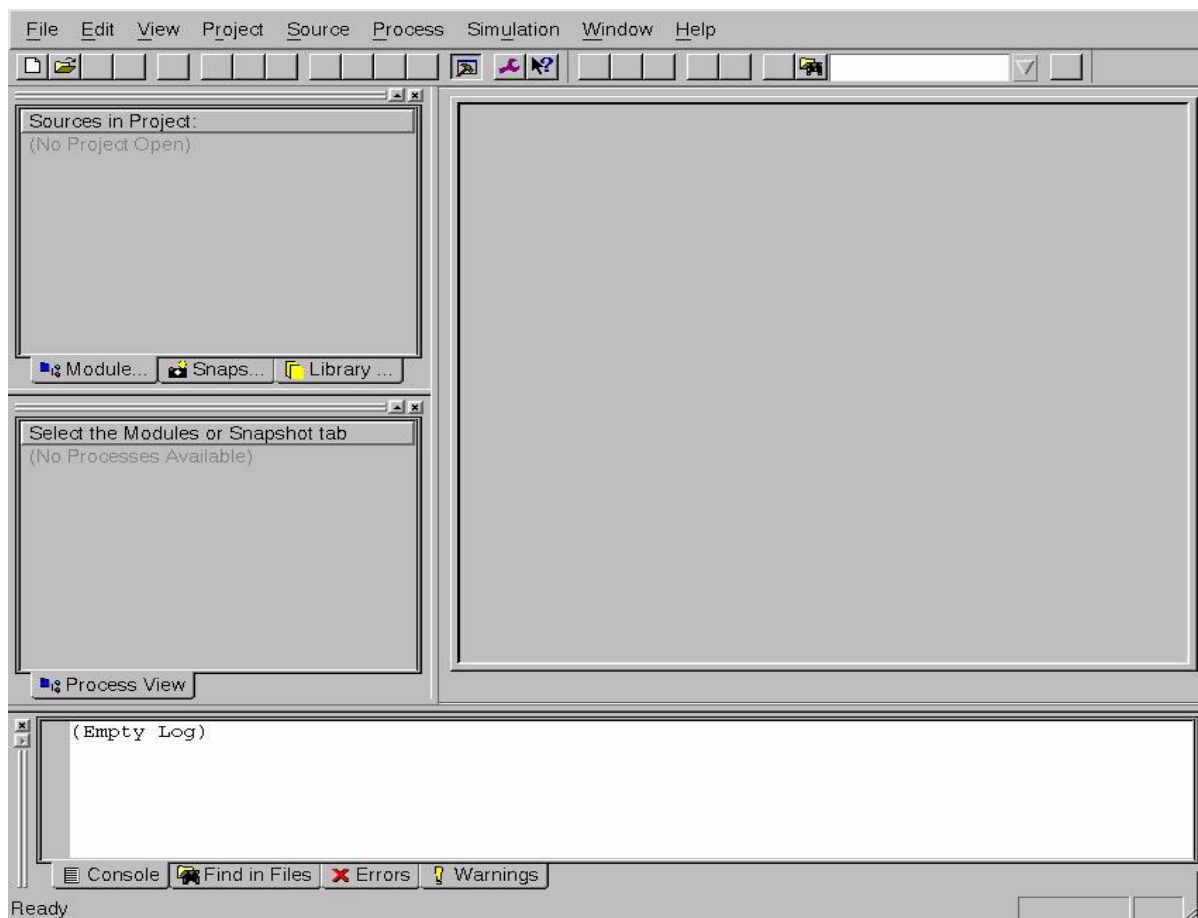

Figure 21: Xilinx Project Navigator window.
(3) The Xilinx Project Navigator window will appear as shown in Figure 21. A Tip of the Day window will also appear, select OK in it to close the Tip of the Day.